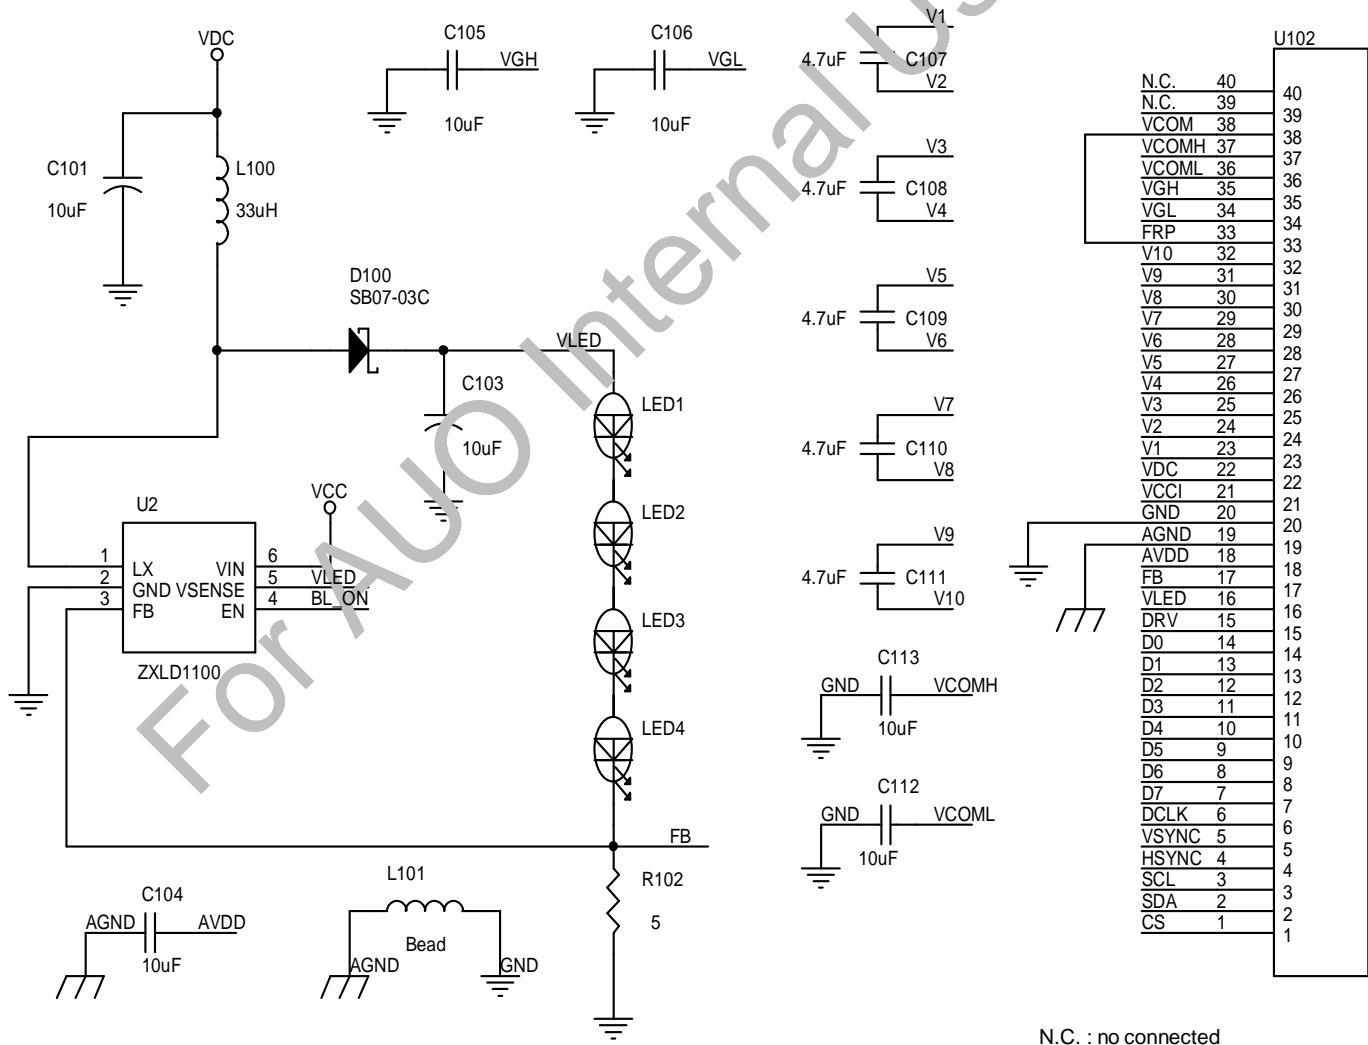

Fig.13 External LED driver Circuit
See Fig. 13 for the application circuit.
According to Fig. 13, the LED driver(ZXLD1100) and R102(5 ohm) with 0.1V feedback (FB) can provide a constant 20mA current for LED backlight unit. To control the back light on/off timing, user should create a control signal BL_ON (please refer to the ZXLD1100 date sheet). The LCD driver output DRV signal can also be used to drive BL_ON, in the condition of fine tune the R102 value to get the desired LED current value.
After V_{DC}/V_{CCI} power on reset, VSYNC/HSYNC/DCLK/DATA can be input, and serial control interface is also operational. The LCD driver is in default standby mode after V_{DC}/V_{CCI} power-on, and setting register #5 bit #0 to high (STB=1) to disable the standby mode is required for normal operation. When the standby mode is disabled, a build-in power on sequence is started. The driver IC analog power AVDD is turned on first, and then the LCD positive and negative power supplies VGH/VGL are pumped, and followed by the LED power VLED. While using the external LED driver, the BL_ON signal (see Fig.13) should be provided at this time. Please refer to Fig.14 for the detail timing of power on/off sequence.